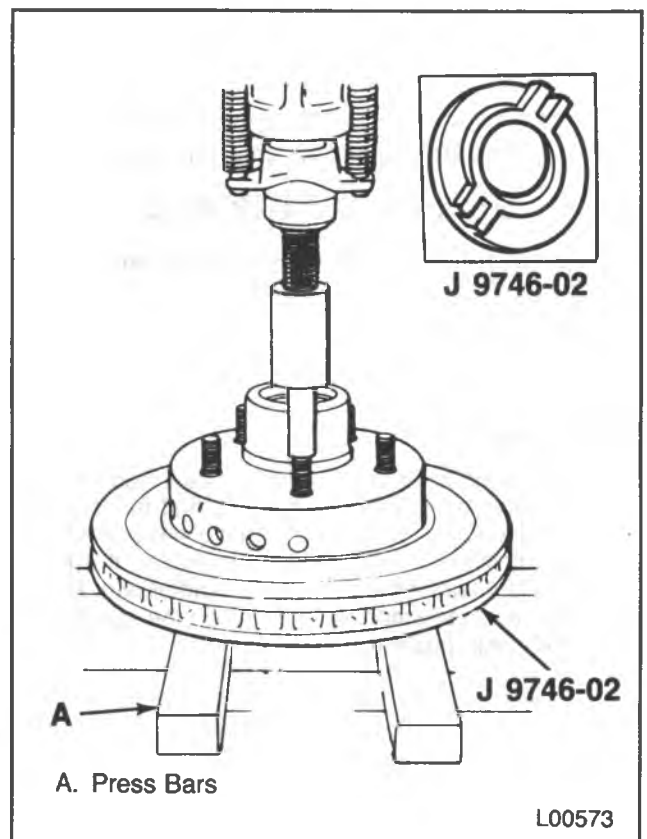

Figure 19 — Removing the Hub Bolts
↔ Remove or Disconnect (Figure 19)
- Wheel hub bolts (74) with a press.
- Support the hub/rotor (81) using J 9746-02 and press bars (figure 19).